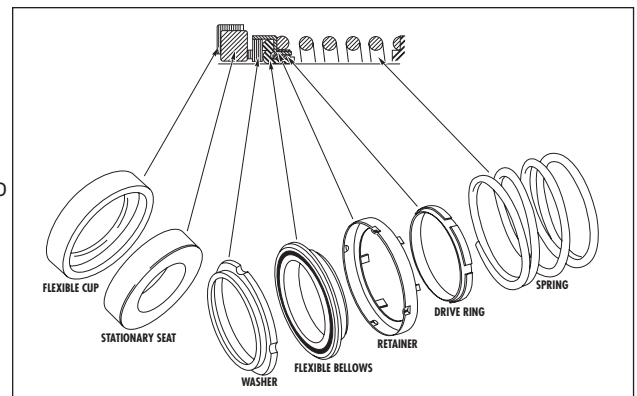

Figure 3. Mechanical Seal
(Refer to Fig. 3.)
- I. Place one seal seat in collar (456B). The other fits into seal gland (31). These parts are set into their cavities in the same manner as they are with a single seal.
- II. Place O-rings (456A) around collars (456B) and put the collars with stationary seats facing away from impeller on ends of shaft. Slide flexible bellows, washers, and springs on shaft in the order shown in Figure 3, for each half of double seal assembly (456).
- III. Place O-rings (31A) around the seal glands (31) and slide seal glands onto ends of the shaft with stationary seats facing impeller.